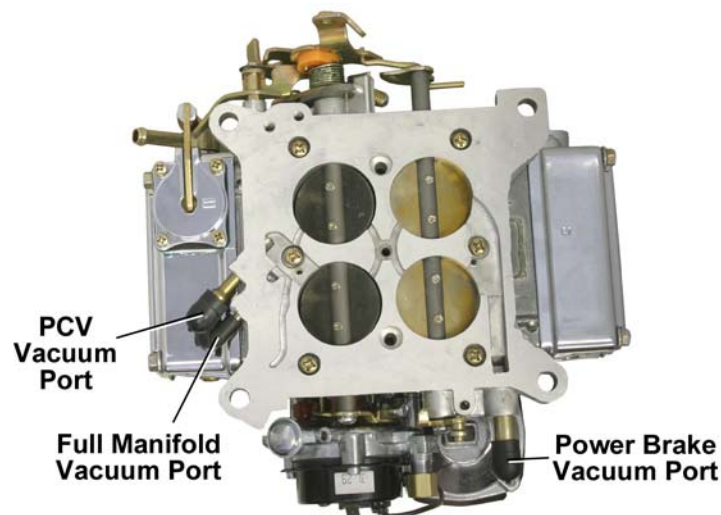

Figure 7
1. Attach the vacuum gauge to a manifold vacuum port on the throttle body (Figure 7).